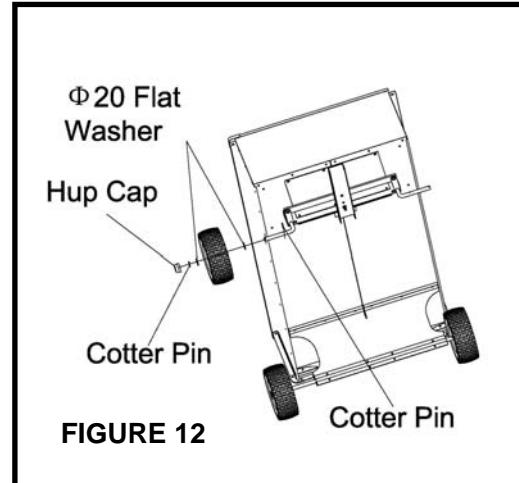

FIGURE 12
28. Assemble a cotter pin to the inside hole in an axle spindle. Place a Ø20 Flat Washer, a wheel (valvastem facing out) and another Ø20 Flat Washer onto the axle spindle. Assemble a cotter pin to the end hole in the axle. Repeat on other side. See **Figure 12**. Note: Prevent the axle spindle from pivoting downward until the wheel is secures to it by the outer cotter pin.
29. Assemble a hub cap over the Ø20 Flat Washer on each wheel. See **Figure 12**.